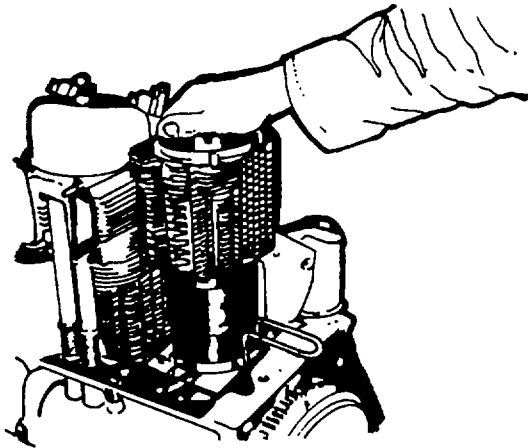

Figure 4-15. Correct Installation of Cylinder
- h. Install the cylinder with the cutouts facing the push rod bores (figure 4-15).